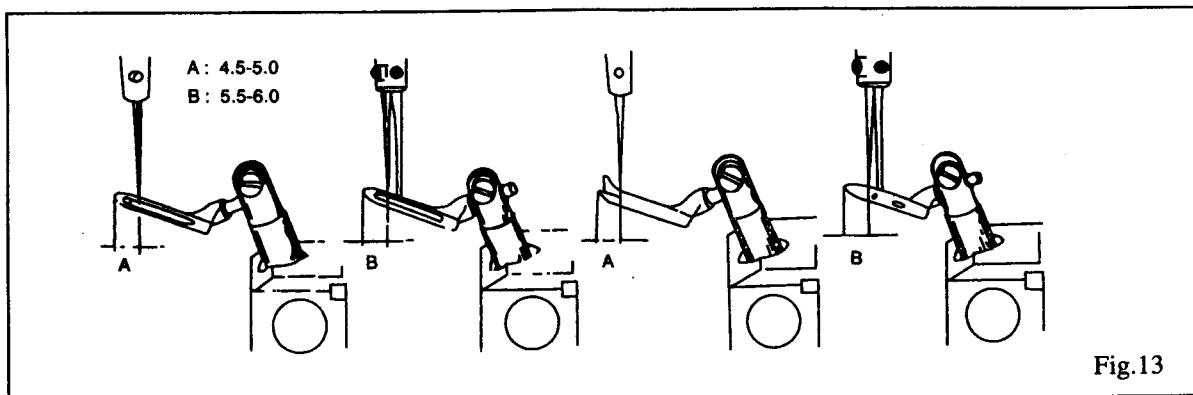

Fig.13
2. Upper Looper (Spreader) and Needle Fig.13